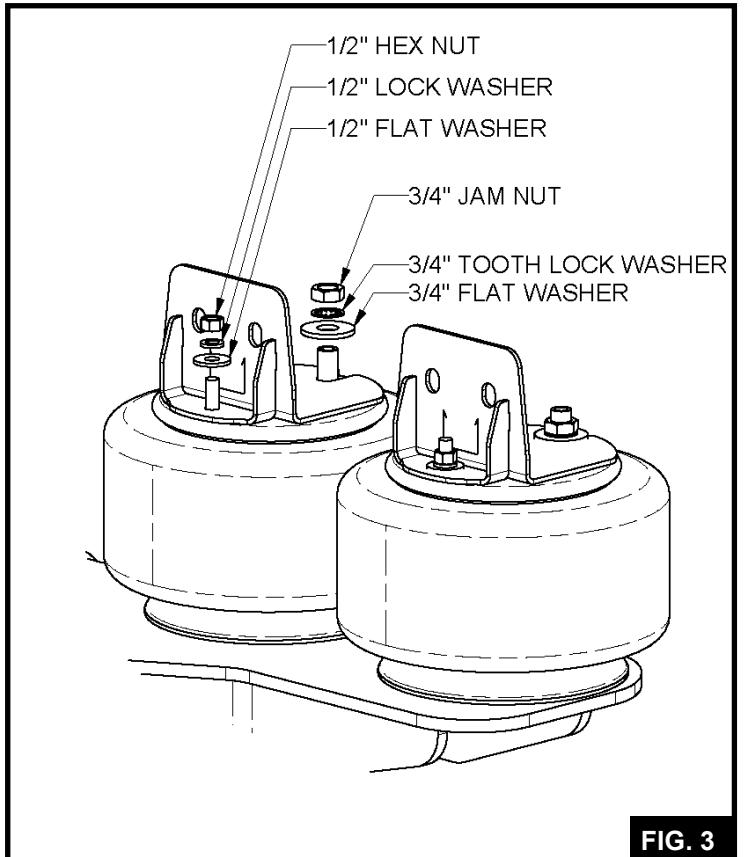

FIG. 3
**5.4** Secure the air spring top stud to the air spring hangers, using the 1/2" flat washer, lock washer and standard hex nut (See FIG. 3).
**5.4** Secure the combo fitting to the air spring hangers with the 3/4" flat washer, internal tooth lock washer and the jam nut (See FIG. 3).